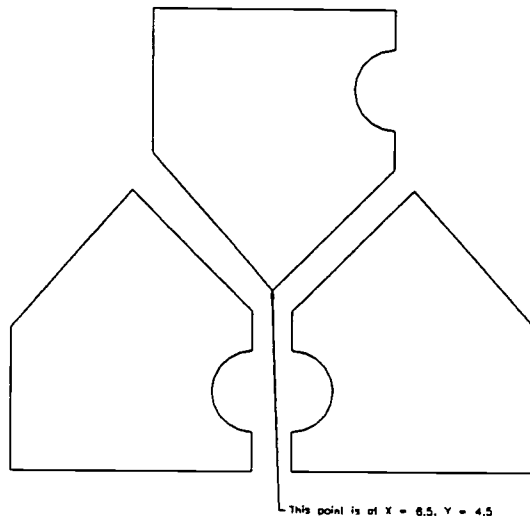

Figure 5
5. Use the **Rotate** command (making sure copy is on), then use **Move** to create figure 5.